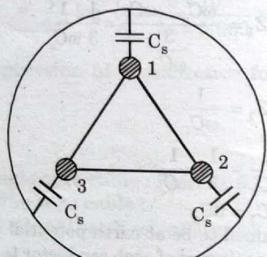

Fig. 5.9.4.
- All the three cores are bundled together. This eliminates all the core-core capacitances. This is shown in the Fig. 5.9.4.